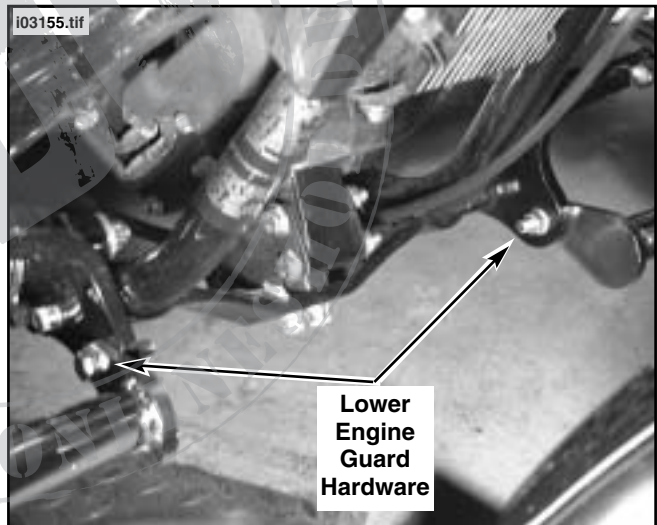

Figure 2. Lower Engine Guard Mounts
3. See Figure 2. Align and install left lower guard to footboard forward mounting hole using screw (part number 4721), flat washer (part number 6701) and flange locknut (part number 7601). Tighten hardware to 18-22 ft-lbs (24.4-29.8 Nm).
4. See Figure 2. Align and install right lower guard to footboard forward mounting hole using screw (part number 4721), flat washer (part number 6701) and flange locknut (part number 7601). Tighten hardware to 18-22 ft-lbs (24.4-29.8 Nm).